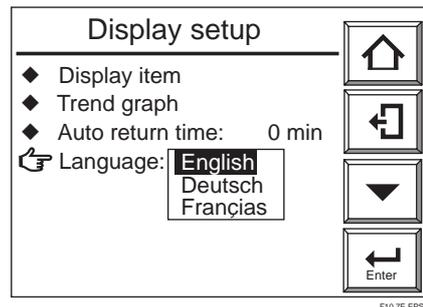

Figure 10.7 Display Setup Display
- (1) Select the Setup key from the basic panel display to display the Execution/Setup display. Then select Maintenance from the Execution/Setup display.
- (2) Select the Display setup from the Maintenance display.
- (3) Select Language from the Display setup display. The language selection display as shown in Figure 10.7 then appears.